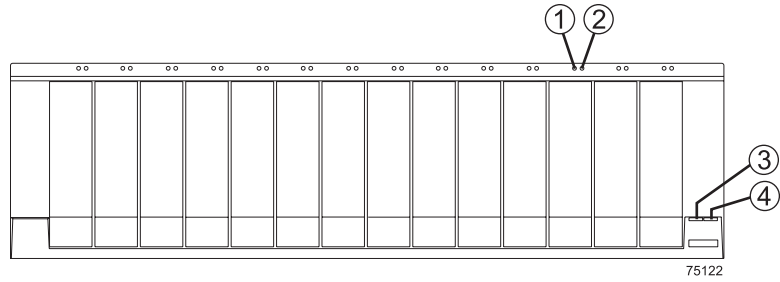
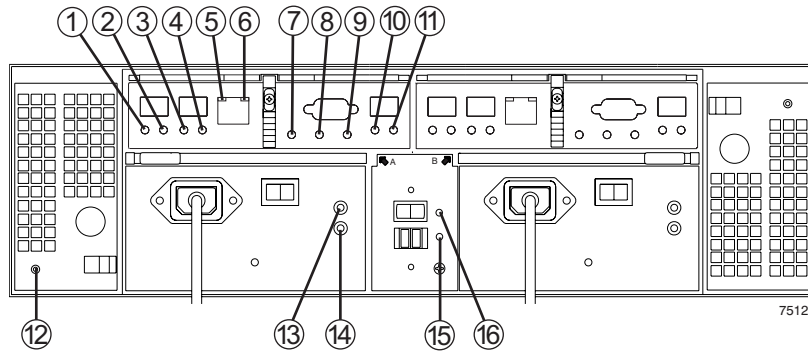

Figure 3-1 Lights on the Front of an Array Module
Figure 3-2 Lights on the Back of an Array Module
- 9** Check all of the lights on the front and the back of each module. Figure 3-1 on page 3-3 and Figure 3-2 on page 3-4 show the locations of indicator lights.
Figure 3-1 on page 3-3 and Figure 3-2 on page 3-4 show the locations of the lights. Table 3-1 on page 3-3 and Table 3-2 on page 3-4 list the interpretations of lights on the array module.